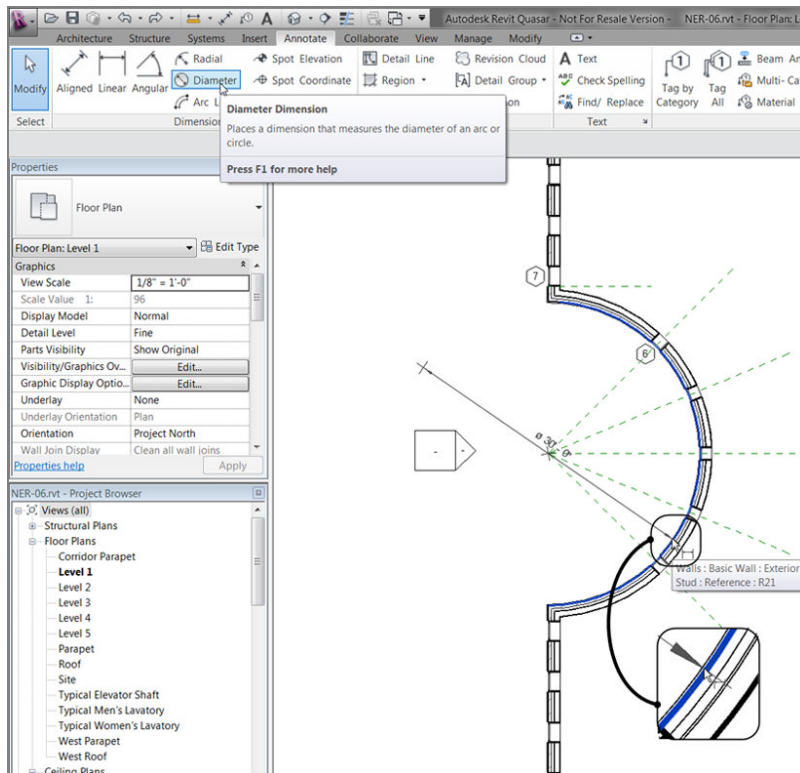

FIGURE 5.21: Adding a diameter dimension
5. Pan all the way to the west radial end of the west wing, as shown in Figure 5.21.
6. On the Annotate tab, click the Diameter button, as shown in Figure 5.21.
7. Dimension to the finished outside face of the brick, and place your dimension in a location similar to that shown in Figure 5.21.